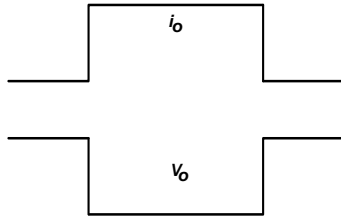
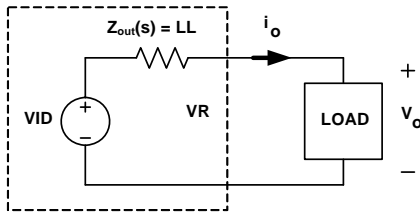

FIGURE 18. DESIRED LOAD TRANSIENT RESPONSE WAVEFORMS
FIGURE 24. VOLTAGE REGULATOR EQUIVALENT CIRCUIT
Assuming the compensator design is correct, Figure 18 shows the expected load transient response waveforms if C_n is correctly selected. When the load current I_{core} has a square change, the output voltage V_{core} also has a square response.
Figure 18 shows the desired load transient response waveforms. Figure 24 shows the equivalent circuit of a voltage regulator (VR) with the droop function. A VR is equivalent to a voltage source (= VID) and output impedance $Z_{out}(s)$. If $Z_{out}(s)$ is equal to the load line slope LL, i.e., constant output impedance, in the entire frequency range, V_o will have square response when I_o has a square change.